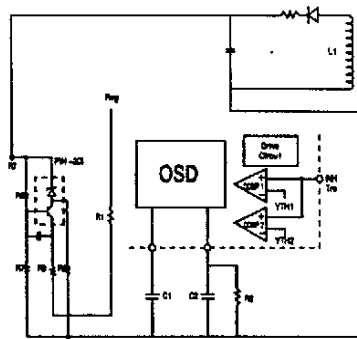

Fig 3 Oscillator Circuit Configuration
- 3) Adjust two tabs of the 4-Pole Magnets to change the angle between them (See Fig. 3) and superimpose red and blue vertical lines in the center area of the picture screen. (See Fig. 4)
As the circuit in Fig. 3 shows, the ON-time is controlled by changing a current charged by C1, which is as the result of that the detection winding (L1), which detects a change of voltage in a secondary side, connected to the sensing terminal (Pin No. 7) has the current in accordance with an output signal from an output voltage detection circuit (an error amplifier) built in. As an AC input voltage to the power supply gets the higher and a load current the smaller, the current flowing to the SENS terminal gets the larger, and the ON-time gets the shorter.